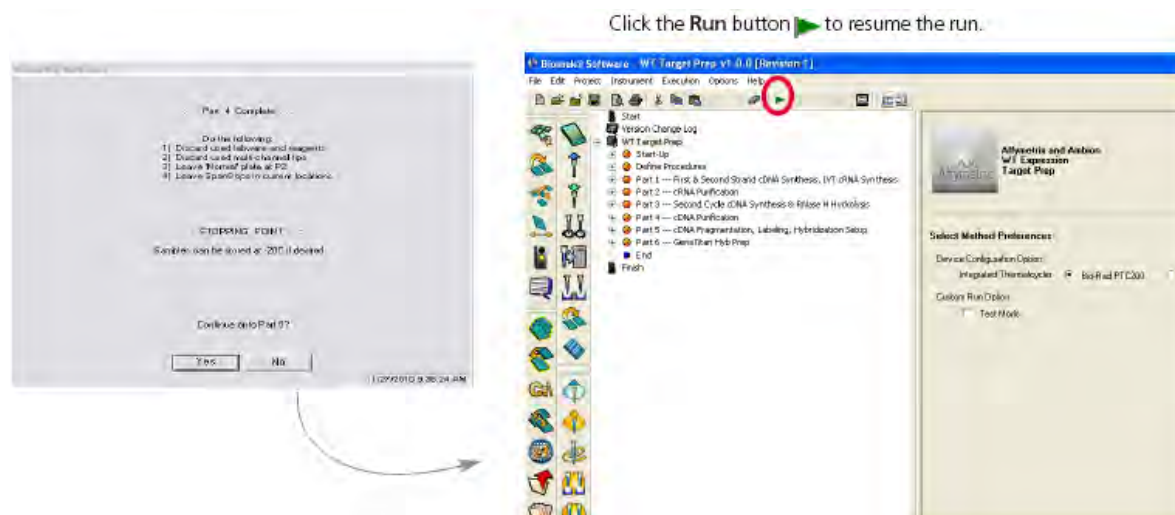

Figure 57 Stopping/Resuming the run.
25. If you do not want to continue to run, click **No**. When ready to resume ensure that clean, fresh Span-8 tip boxes are placed on the deck and click **Run**  in the window that appears (Figure 57).